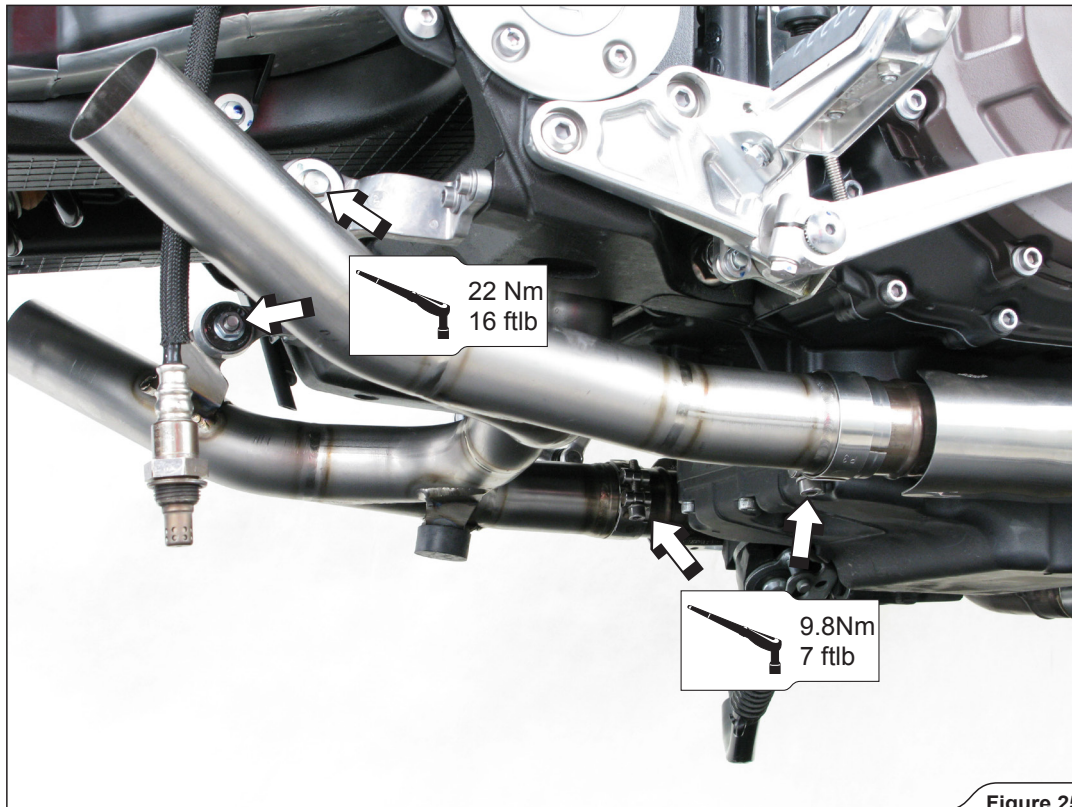

Figure 25
5. **For OPEN SLIP-ON only:** tighten the marked bolts of stock collector brackets and metal clamps (**Figure 25, 26**). Tightening torque for bolts of stock collector brackets: 22Nm/16 ftlb. Tightening torque for metal clamps: 9,8Nm/7ftlb.